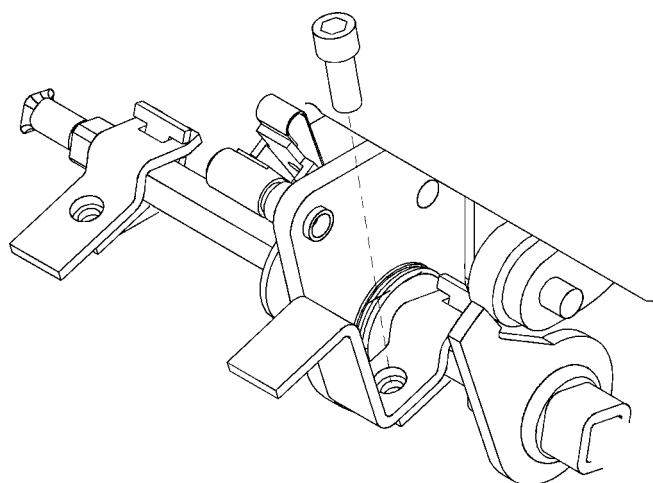
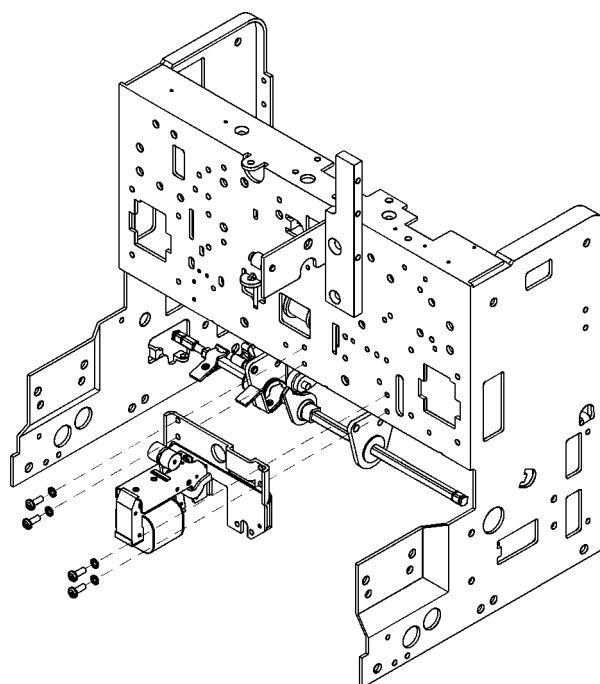

Figure 4. Mounting the trip paddle on the breaker's trip shaft.
Figure 5. Mounting the Shunt Trip onto the breaker's bottom frame.
5. Assemble the two pieces of the trip paddle over the breaker's trip shaft, as shown in Figure 4 and Figure 5. Secure the trip paddle in position with the socket-head screw supplied.
6. Line up the screw holes in the accessory mounting bracket with the four tapped holes in the breaker bottom frame, as illustrated in Figure 5. Insert and tighten the four screws and lock washers supplied to secure the Shunt Trip in position.